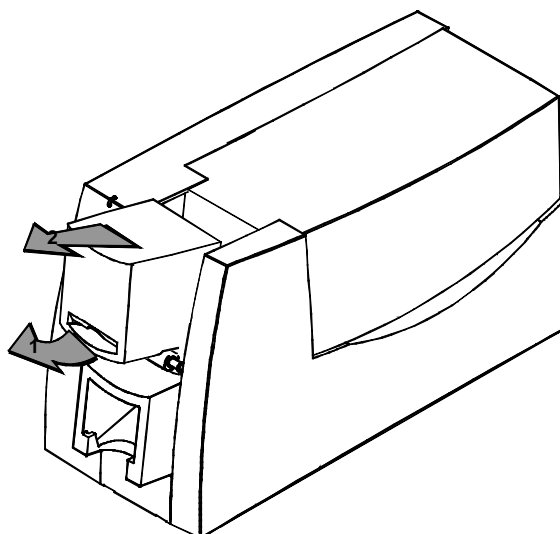

Figure 2-1: Remove the card cartridge
- ❶** If the printer has a locking card cartridge, unlock the cartridge before removing it.
- 1 Pull up on the lower edge of the card cartridge (see step 1 in Figure 2-1). Lift the card cartridge up and out of the printer (step 2 in Figure 2-1).